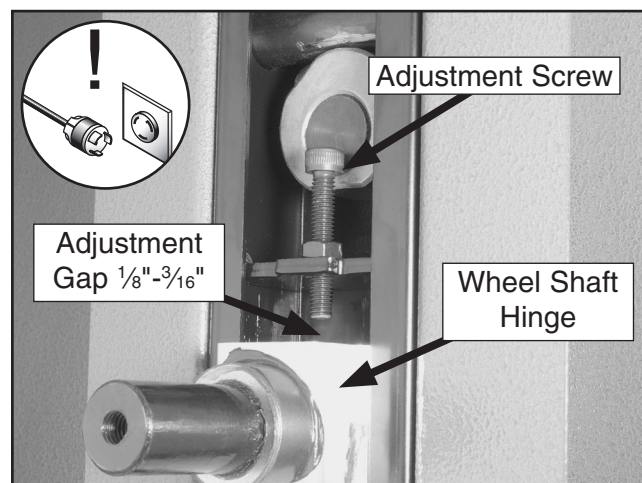

Figure 68. Tension lever adjustment components.
5. Turn the adjustment screw shown in **Figure 68** until the gap between the screw and the wheel shaft hinge is $\frac{1}{16}$ "– $\frac{3}{16}$ ".